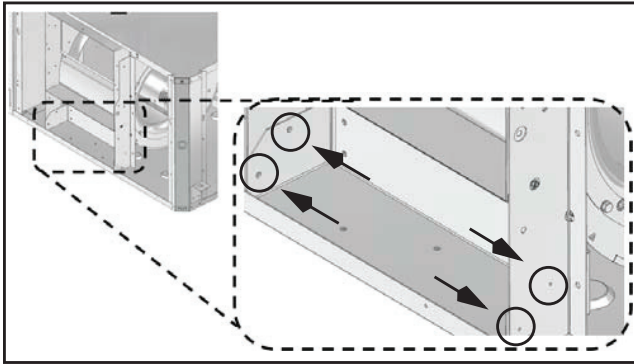

Fig. 40 - Connect Vertical and Horizontal Brackets
14. Connect vertical and horizontal brackets by installing (4) screws. See Fig. 40.